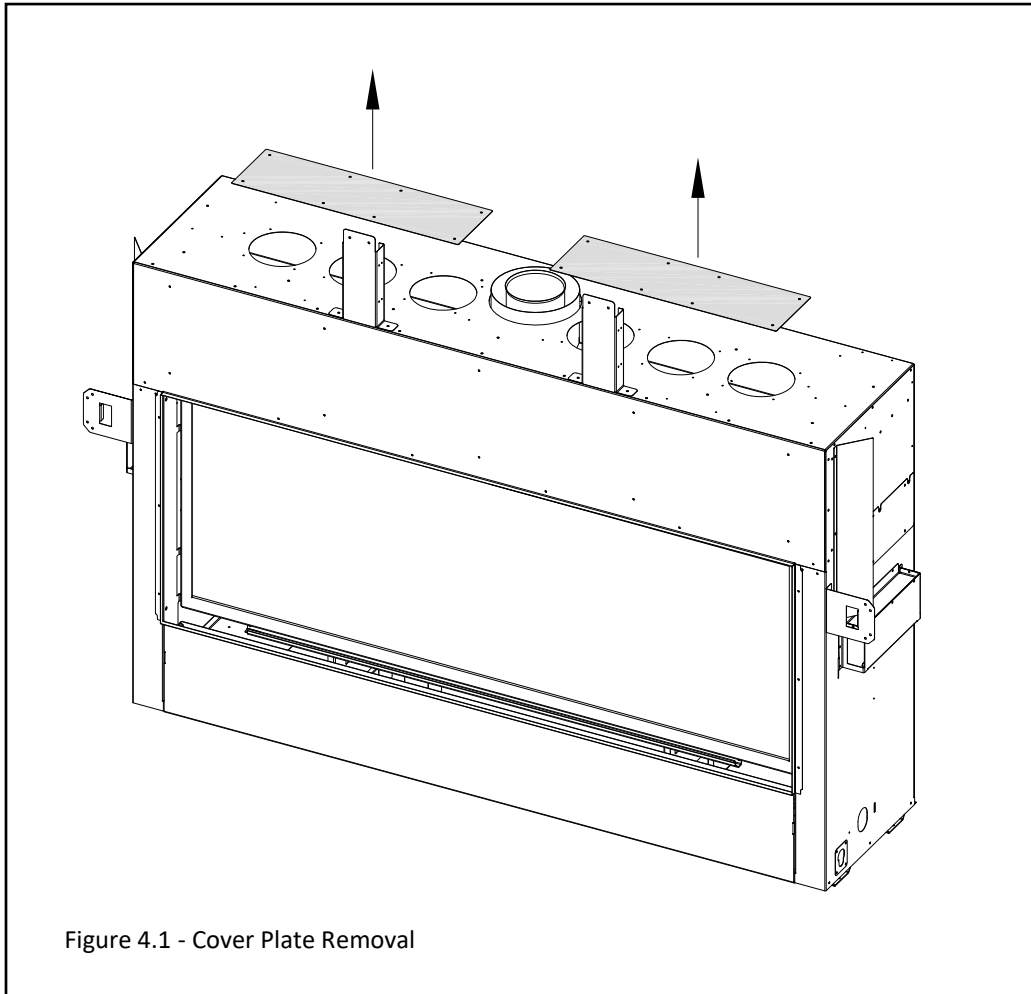
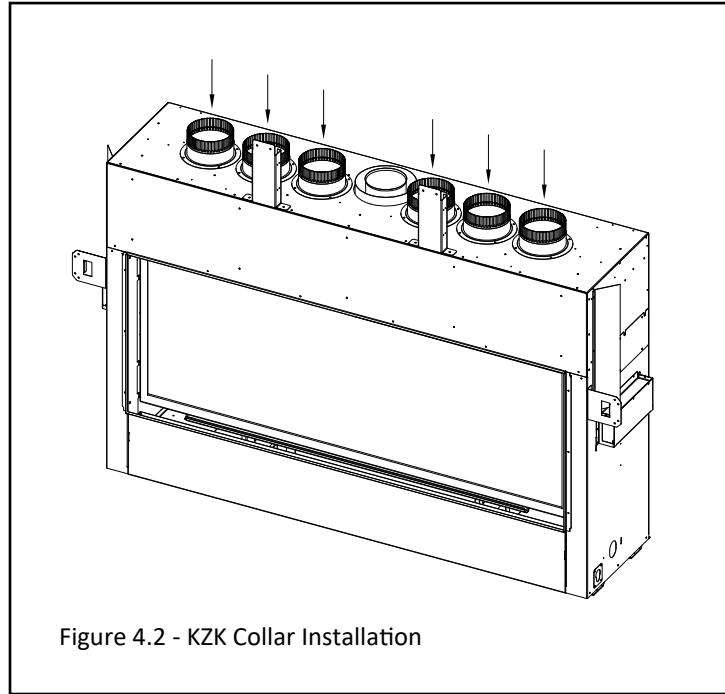
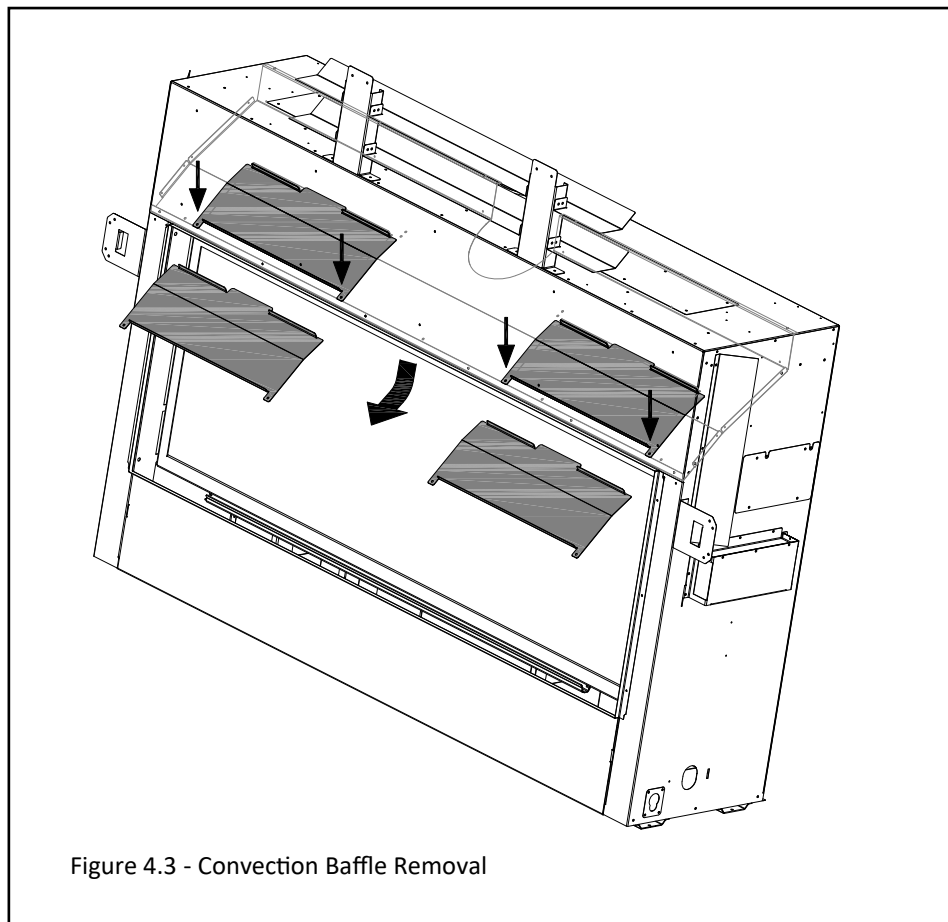

Figure 4.1 - Cover Plate Removal
Figure 4.2 - KZK Collar Installation
Figure 4.3 - Convection Baffle Removal
- The appliance cover plates and convection plates must be removed for Komfort Zone Kit installations, as shown in FIGURE 4.1 & Figure 4.3. KZK collars must be installed—See Figure 4.2.
1. Remove the (16) sheet metal screws that secure the (2) cover plates at the top of the fireplace shown in Figure 4.1. Discard these two cover plates. Save the sheet metal screws for the next step.
2. Install the KZK collars that were provided with KZK-062 as shown in Figure 4.2. Reuse the sheet metal screws from the previous step.
3. Locate the (2) convection baffles as shown in Figure 4.3. There are (2) screws that secure each convection baffle. Remove the screws and convection baffles from the fireplace. Discard the screws and convection baffles.